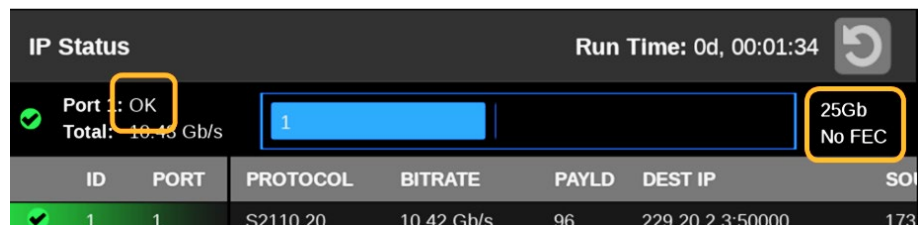

Figure 47: IP Status display port status
- The IP Status display shows the Data Rate setting, the FEC setting, and the signal status. (See Figure 47.)